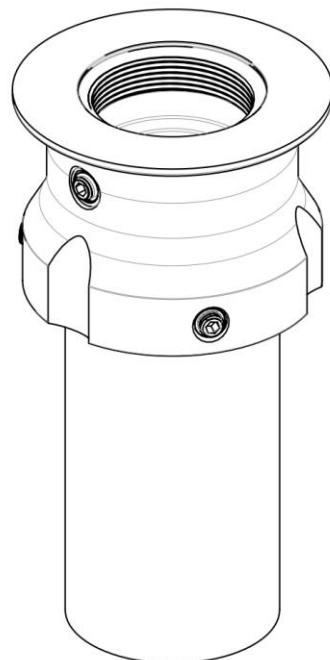
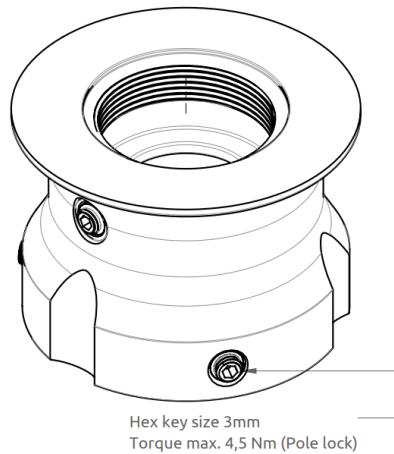
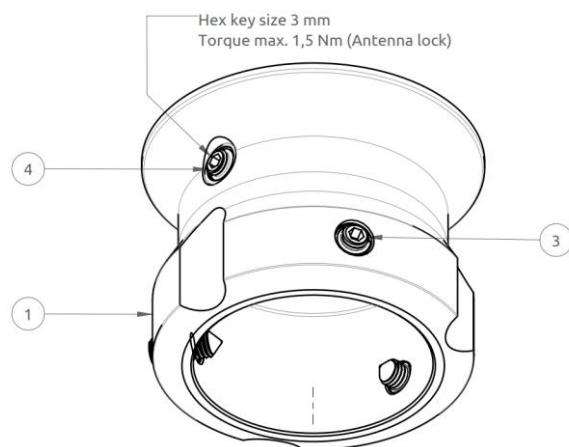

Figure 32: Pole Mount (2.0" pipe, Ø53.0 mm), Antenna Unit.
Figure 33: Pole Mount (2.0" pipe, Ø53.0 mm), Antenna Unit.
Figure 34: Pole Mount (2.0" pipe, Ø53.0 mm), Antenna Unit.
The Pole Mount (2.0" pipe, Ø53.0 mm), Antenna Unit is illustrated in Figure 32 to Figure 34.
4. Screw the pole mount (clockwise) on the LT-3130 Antenna Unit, and fasten the antenna lock pinot screw, as illustrated in Figure 34 (max torque = 1.2 Nm)
5. The LT-3130 Antenna Unit and pole mount can now be mounted on the 2.0" pipe. Fasten the three pole lock pinot screws, as illustrated in Figure 33 (max torque = 4.5 Nm)
The Pole Mount (2.0" pipe, Ø53.0mm), Antenna Unit only supports a 2.0" pipe. The pinot screws (antenna and pole lock) torques are specified in Figure 33 and Figure 34. The pole mount is made of milled aluminum (anodized). The pinot screws are made of A4 stainless steel.